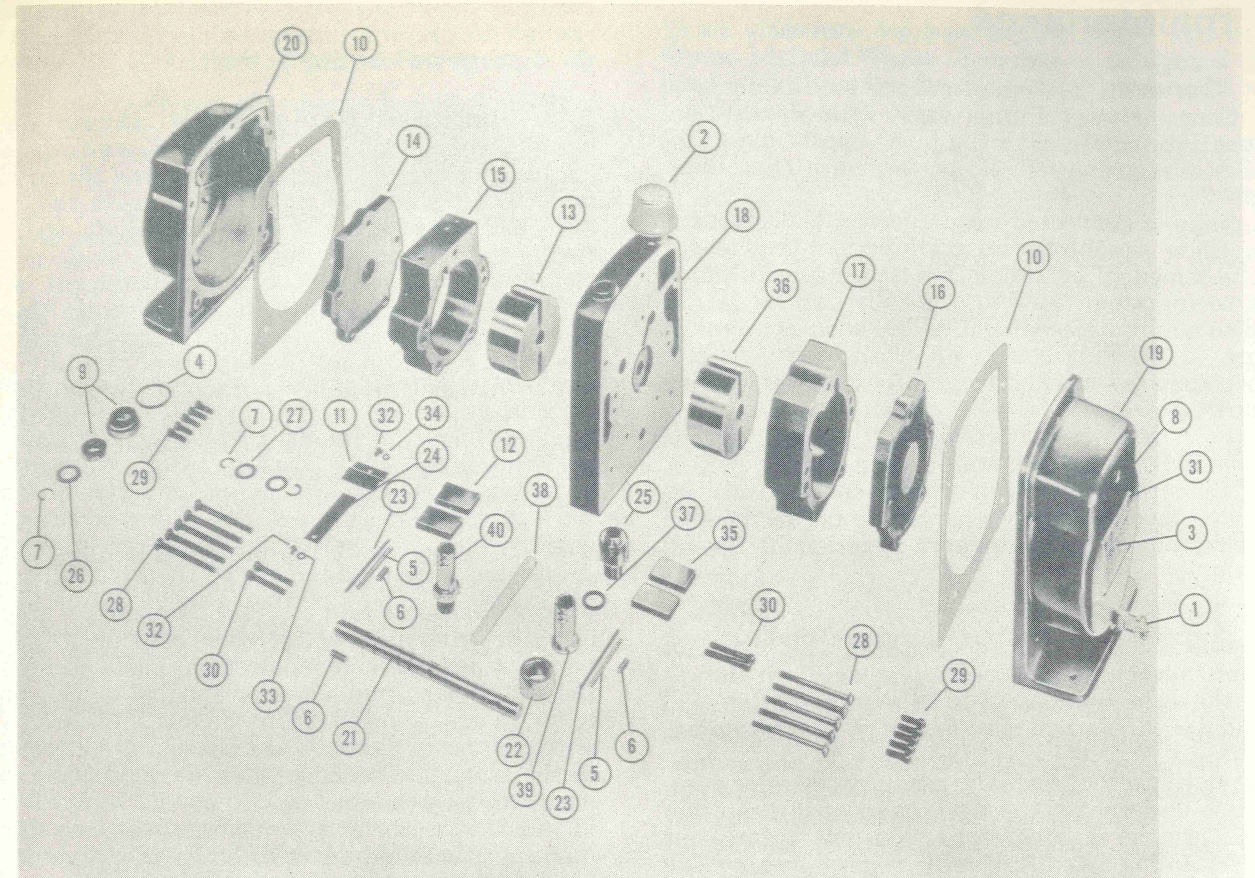

Fig. 7—Exploded view of the Hyvac 2, 4, 6, 7, and 14 Pumps
7.5 Repairs: Fig. 5 shows cross sectional views of the Hyvac Pump. Figs. 7 and 8 show an exploded view of the pump and all its components. Table IV lists the part number for each component of the pump. When ordering replacement parts, please give the exact part number. For repairs to the pump other than the replacement of the shaft seal, it is strongly recommended that the pump be returned to the factory, especially when adequate shop facilities are not available.